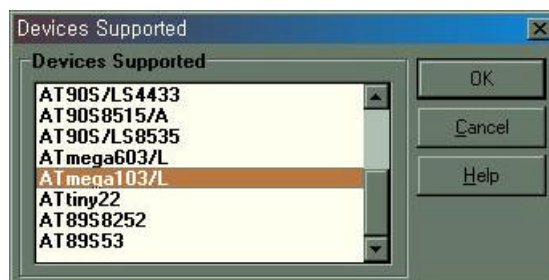

Fig 3.10
② Click Project → New Project or  icon. The following menu appears. Select the device highlighted below. Click Ok (Fig 3.10)